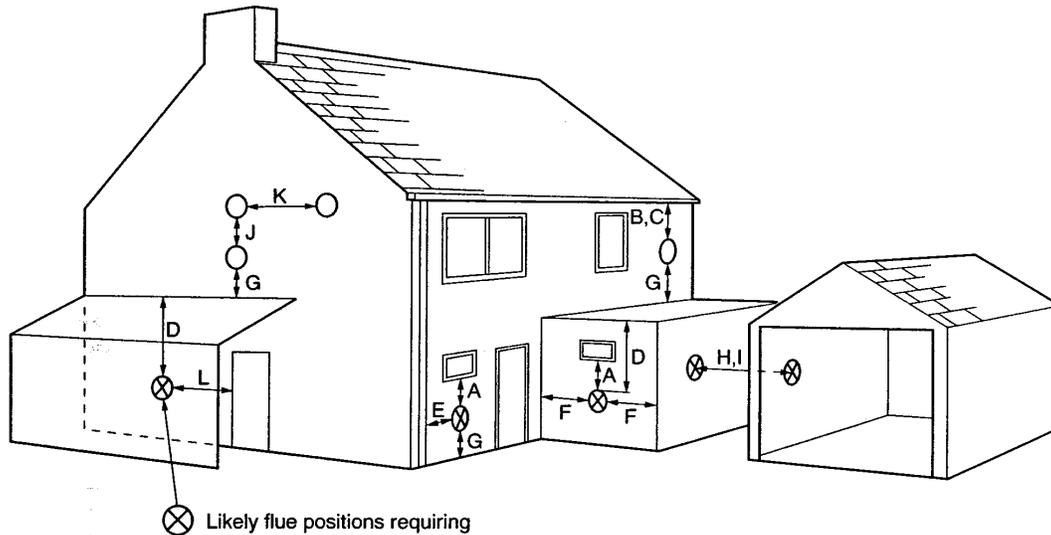

Fig. 17
**Terminal Position with Minimum Distance (Fig.17) (mm)**